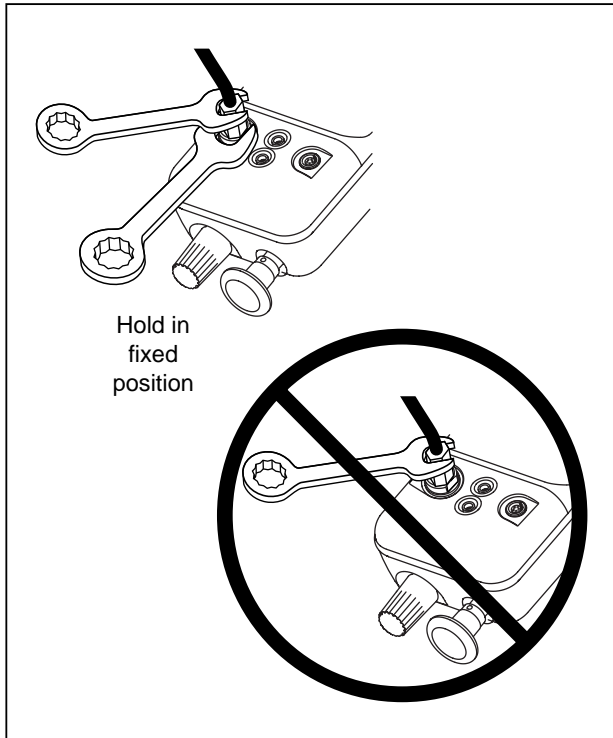

Figure 1. Connection Technique
- Do not apply torque between the pressure fitting and the Calibrator case. See Figure 1 for the proper use of tools.